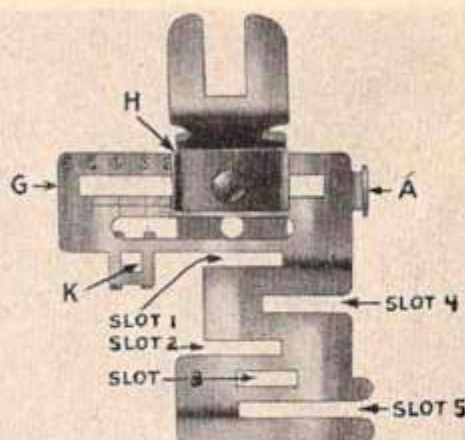

Fig. 22
The numbers 2 to 6 inclusive stamped on the back edge of the sliding guide (G) (Fig. 22) represent the width of tuck in eighths of an inch. After folding the material for the first tuck, introduce the folded edge into the guide slot which is nearest the needle. When the left-hand edge of the friction spring (H) coincides with the number 2 on the scale a $\frac{1}{4}$ -inch tuck results.
By moving lug "A" draw the edgestitching portion of attachment toward the right and set braiding guide "K" directly in front of the needle so that needle pierces the center of trimming as it is being stitched. Enter the braid into the hole K (Fig. 22). The design to be braided should be plainly marked or stamped on the top or right side of fabric. Stitch along this design, being sure that the soutache braid is feeding freely into the hole K without twisting. To turn a corner, stop the machine with the needle down through the braid in the exact corner of the design, raise the presser bar just enough to permit the turning of the fabric in the desired direction, lower the presser bar and proceed as before.